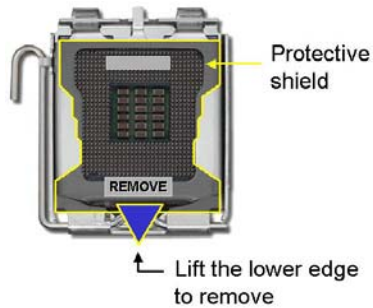

Figure 0-2: Remove the CPU Socket Protective Shield
Step 1: Remove the protective cover. Remove the black protective cover by prying it off the load plate. To remove the protective cover, locate the “**REMOVE**” sign and use your fingernail to pry the protective cover off. See **Figure 0-2**.